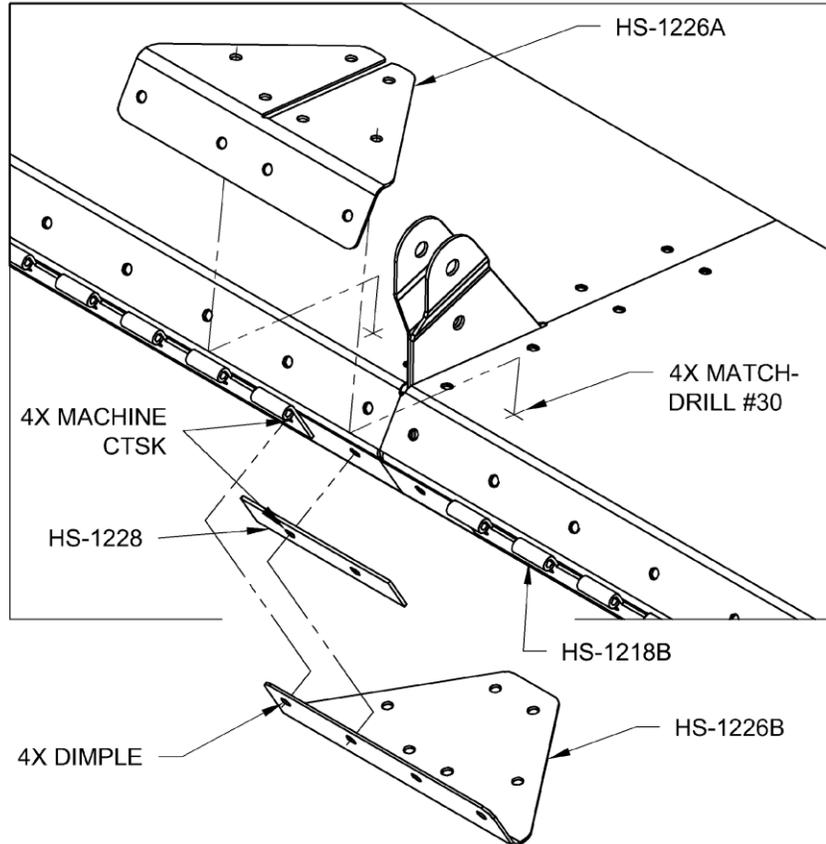

FIGURE 7: PREPARE FOR ASSEMBLY
Step 13 (Cracked Skins): Dimple the HS-1226B Doubler where indicated in Fig 7.
Step 16 (Cracked Skins): Cleco the HS-1226A and B Doublers to the AST and match-drill the skins per the call-out in Figure 7. Remove and deburr.